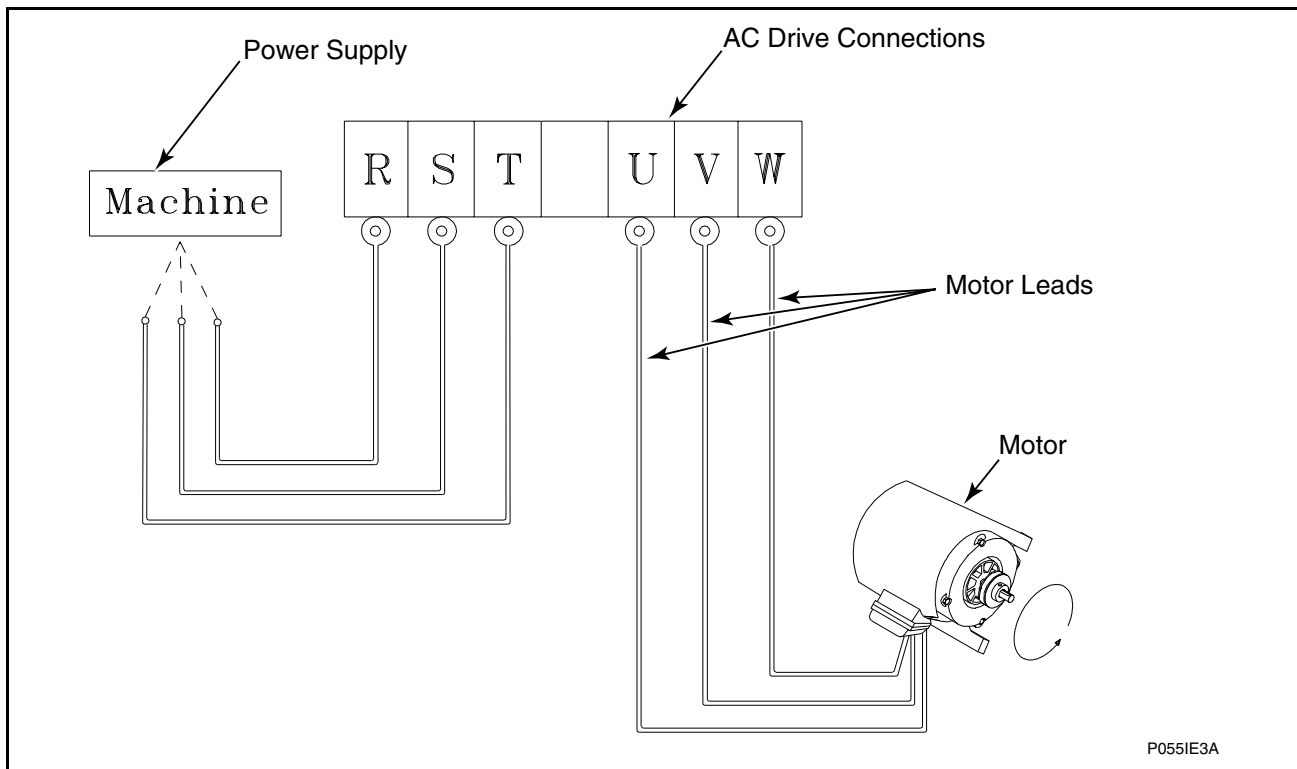

Figure 18
8. Cylinder rotation must be clockwise in the extract step. If rotation is not clockwise in the extract step, disconnect power. A qualified electrician must reverse any two leads between the AC drive and the motor. See Figure 18.